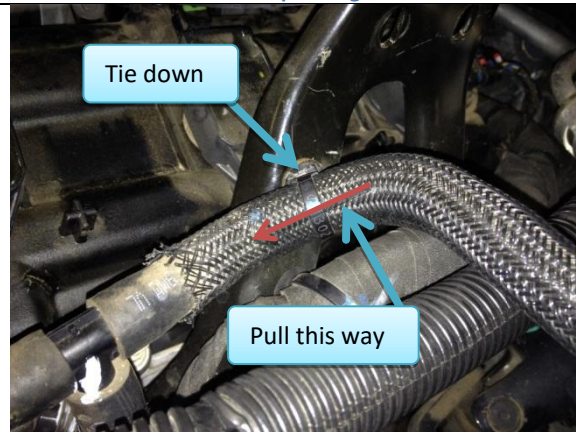

Figure 68: Brake booster tie down may prevent line connecting to port on front intake assembly.
44.1. May need to pull hose forward in tie down (twist and pull) (Figure 68)